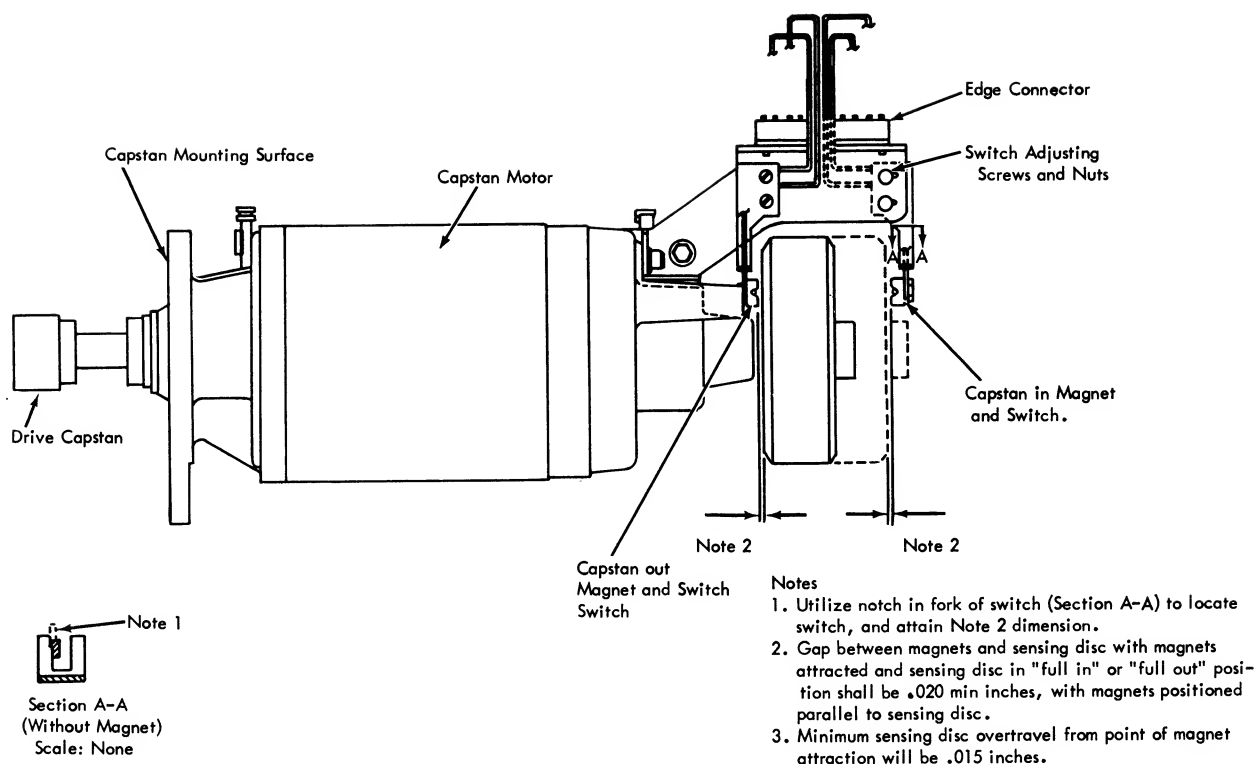

Figure 49. Capstan Motor Assembly
Position of the capstan is determined by two microswitches located on the rear of the capstan motor. Attached to the operating arm of each microswitch is a magnet that is attracted to a steel disk mounted on the rotor shaft as shown in Figure 49. This disk operates the sensing switches and acts as a flywheel for smooth operation.
When the capstan is extended, the steel disk is in the position shown by the solid lines in Figure 49. The capstan-out switch arm is attracted toward the disk and the switch is operated. When the capstan is retracted, the disk is in the position shown by the dashed lines and the capstan-in switch is operated. The switch operating arms are adjusted so that the magnets are about 0.020 inch from the disk in attracted position.
2. Loosen the appropriate switch, move lug screws, and alter their physical position as required. (Figure 49).